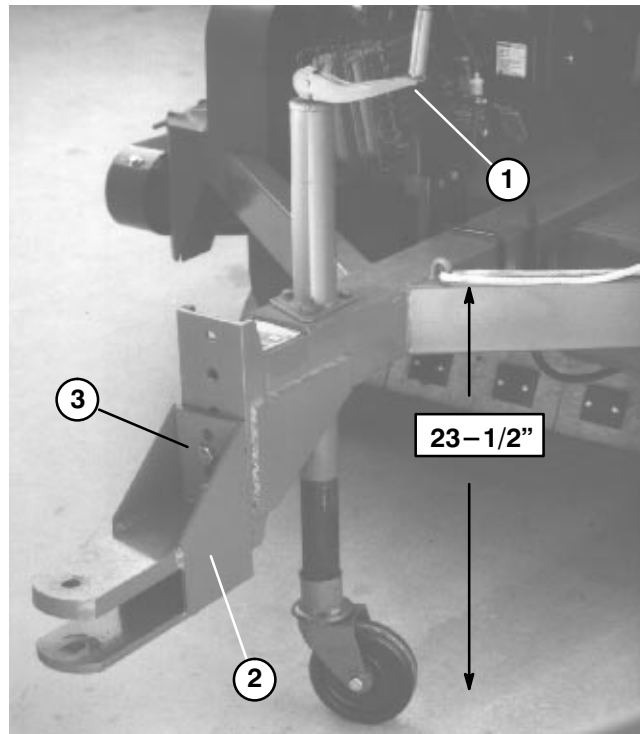

Figure 1
MOUNT SWEEPER TO PRIME MOVER (Fig. 1 & 2)
A. Remove capscrews and locknuts securing hitch tongue to frame (Fig. 1).
B. Raise or lower hitch tongue to position approximately level with prime move hitch and secure with (2) capscrews and locknuts.